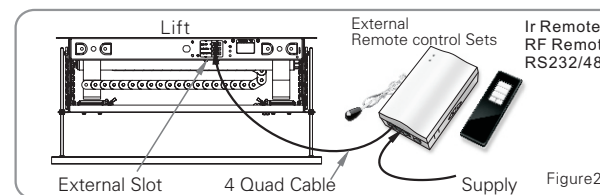

Figure28
- (1)Please fix the external Receiver box on the ceiling and ensure close to the lift.
- (2) Connecting the receiver box and lift with a Quad Cable(Cable Dia must bigger than 4*0.75mm2, refer to Figure 28)
- (3)For the instruction manual of Receiver box, please refer to single Manual Paper.